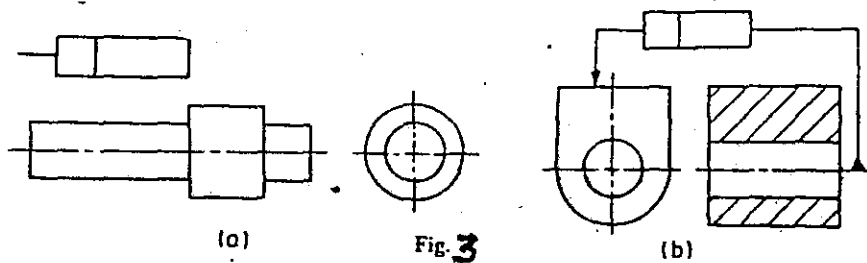

Fig. 3
- (b) Complete the tolerance frames in figure 3 (a) and (b) to satisfy the conditions required in each case: